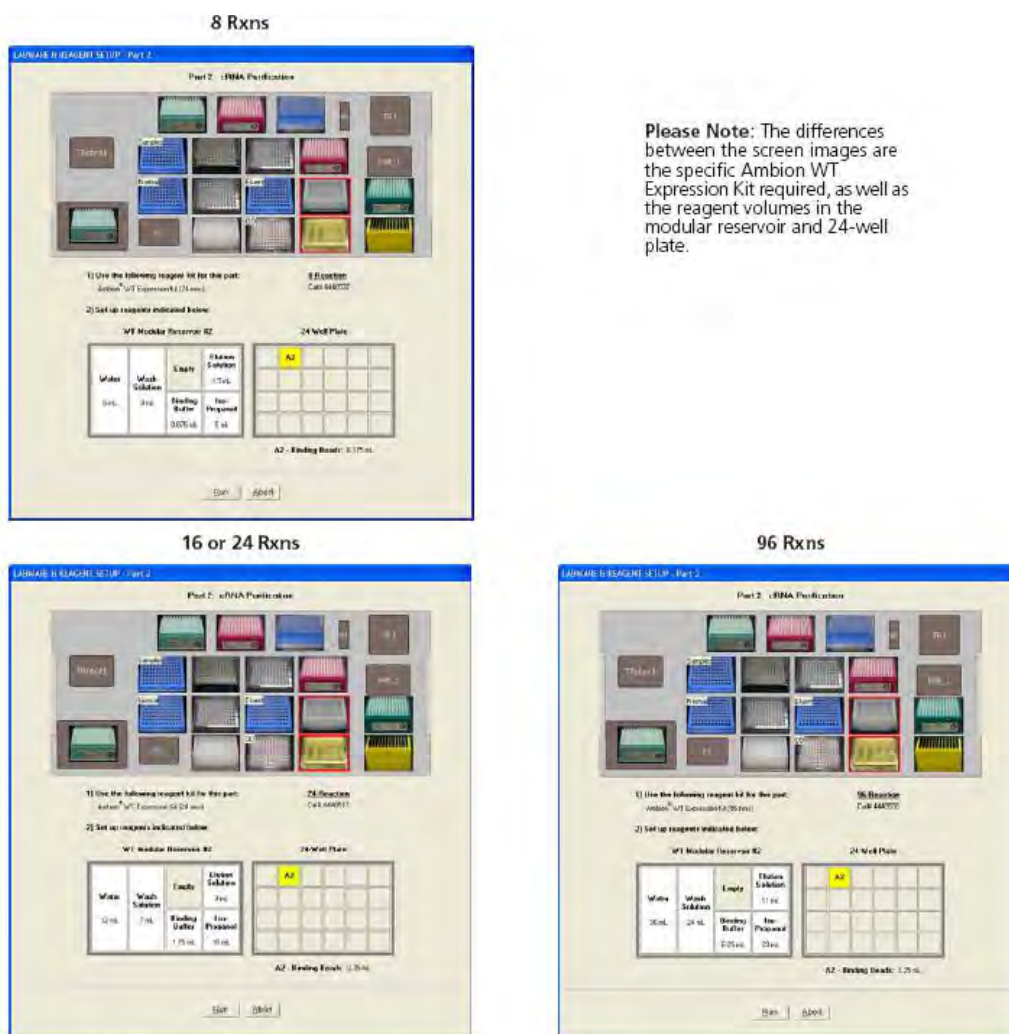

Figure 23 Part 2 labware & reagent setup.
2. The **Labware & Reagent Setup** window for Part 2 appears (Figure 23).
- Figure 23—Illustration of the deck layout
- When the deck is ready, click **Run** in Figure 23.